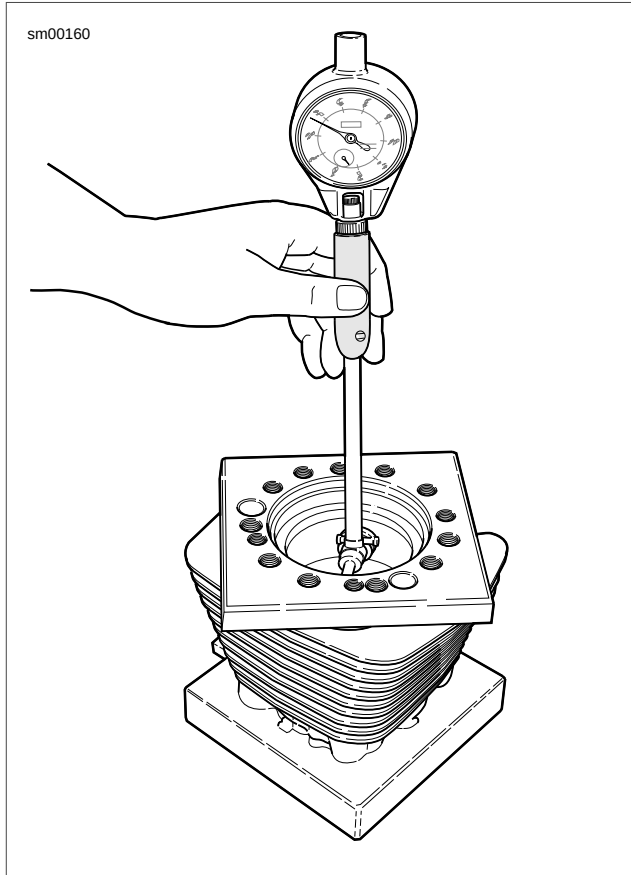

Figure 3-76. Measuring Cylinder Bore Using Torque Plates (Part No. HD-33446B)
2. See Figure 3-76. Install a head gasket, base gasket, and CYLINDER TORQUEPLATES (Part No. HD-33446B) and XL EVOLUTION TORQUE PLATE BOLTS (Part No. HD-33446-86). Tighten the bolts using the same method used when installing the cylinder head screws. See 3.1 SPECIFICATIONS.
3. See Figure 3-76. Take cylinder bore measurement in ring path, starting about 0.50 in. (12.7 mm) from top of cylinder, measuring from front to rear and then side to side. Record readings.